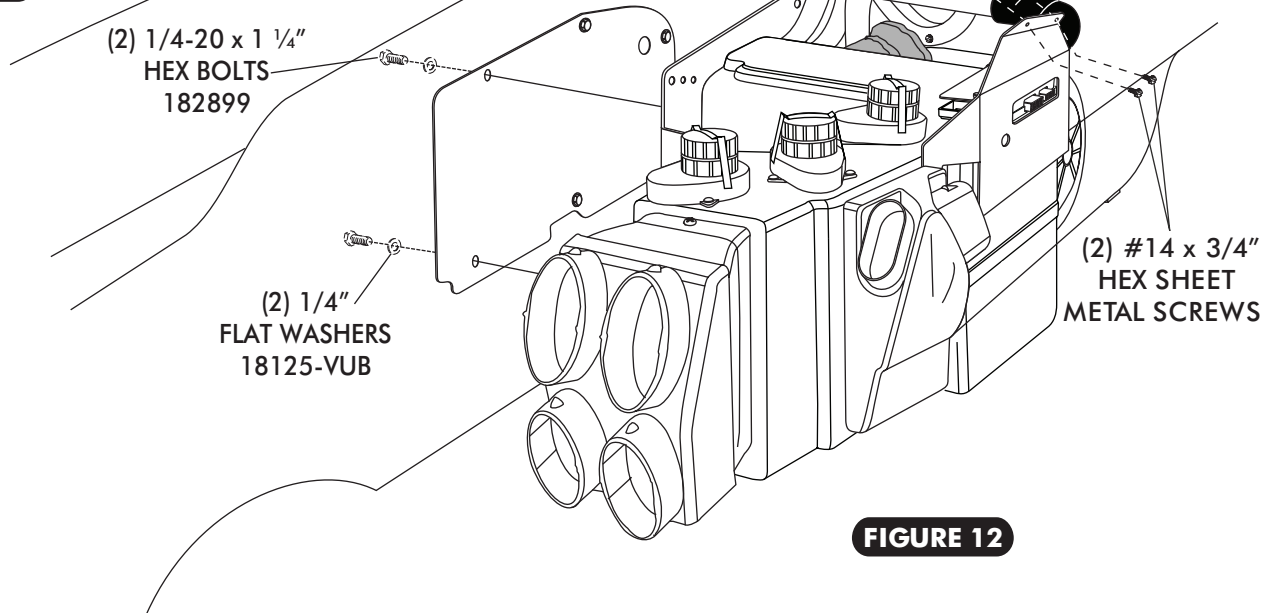

FIGURE 12
- LIFT EVAPORATOR UNIT UP UNDER THE DASHBOARD. SECURE LOOSELY TO THE FIREWALL FROM THE ENGINE COMPARTMENT SIDE USING (2) 1/4-20 x 1 1/4" HEX BOLT AND FLAT WASHER. SEE FIGURE 12.
- SECURE THE FRONT EVAPORATOR MOUNTING BRACKET TO COWL. USING BRACKET AS TEMPLATE DRILL (2) 3/16" HOLES IN COWL. SECURE WITH (2) #14 x 3/4" HEX SHEET METAL SCREWS. SEE FIGURE 12 BELOW.